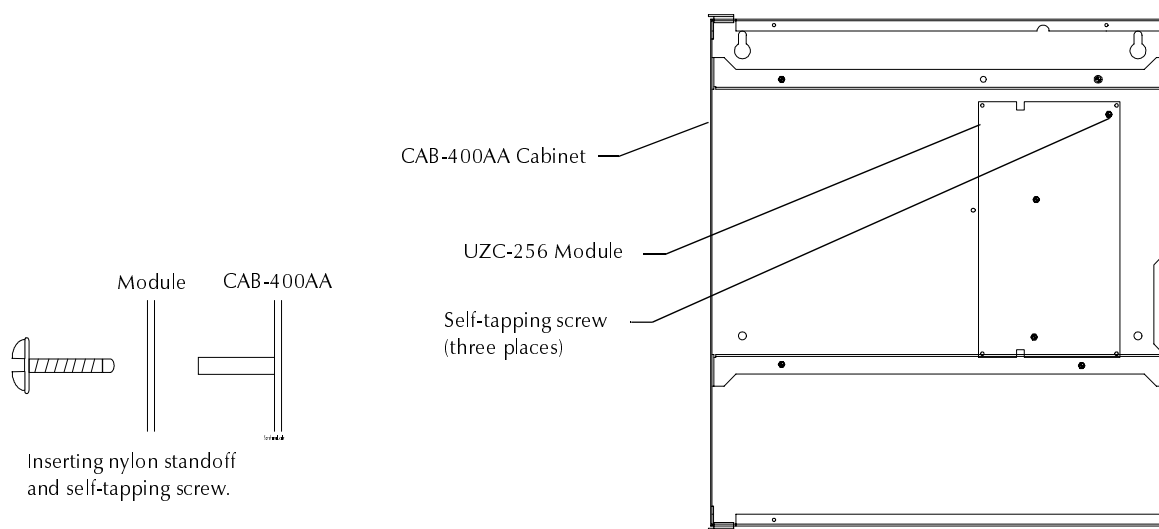

Figure 2-14 Mounting the UZY-25 into a CAB-400AA Cabinet
1. Place the module into the CAB-400AA as shown in Figure 2-14.